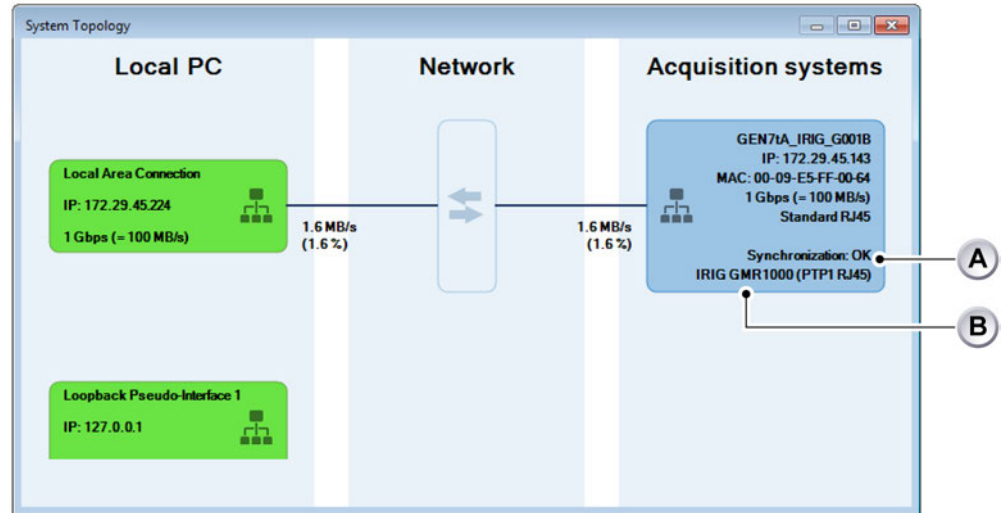

Figure 14.60: System Topology
2 The **System Topology** overview opens (see Figure 14.60):
- B** States that **IRIG GMR1000** is connected as selected (**PTP1 RJ45** for RJ45 connection as shown in Figure 14.60, **PTP2 SFP** if you are using the optical Ethernet).